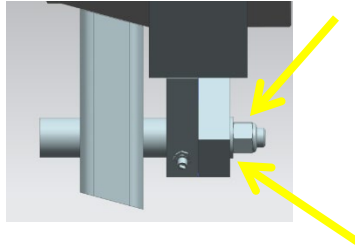

Figure 4: Nut, Washer, and Clamp Ring Pivot Pin
- E. Remove nut and washer from clamp ring pivot pin, see Figure 4.